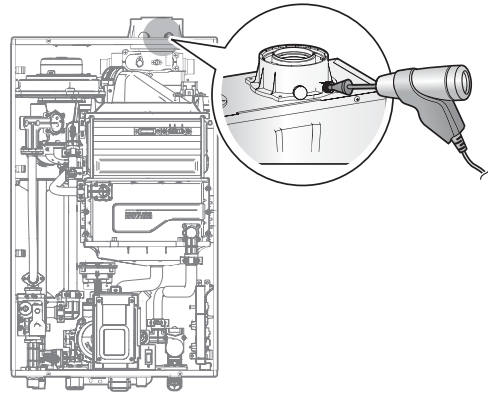

Figure 7. Measuring and Adjusting the Gas/Air Ratio
- Rotate and remove the cap to access the emissions monitoring port as shown in Figure 7.
- Insert the analyser into the port (Figure 7).